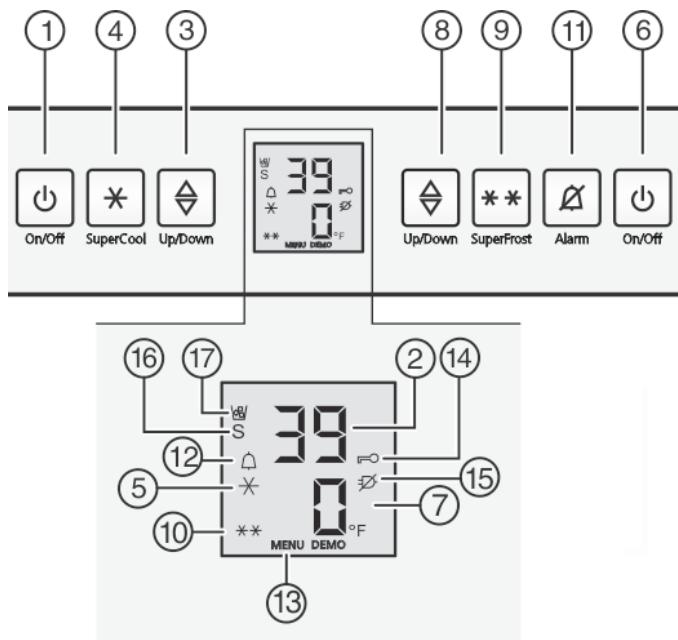

Fig. 3
- Press the Freezer compartment On/Off button Fig. 3 (6).
- Press the Fridge compartment On/Off button Fig. 3 (1)
- Activate setting mode: Press SuperFrost button Fig. 3 (9) for about 5 seconds.
- The Menu symbol Fig. 3 (13) lights up.
- Use the Set freezer compartment button Fig. 3 (8) to select °.
- To confirm: Briefly press SuperFrost button Fig. 3 (9).
- Select °F oder °C with the Freezer compartment set button Fig. 3 (8).
- To exit setting mode: Press Freezer compartment On/Off button Fig. 3 (6).
- To activate setting mode: Press and hold the SuperFrost button Fig. 3 (9) for approx. 5 seconds.
- In the display, the Menu Symbol Fig. 3 (13) is displayed.
- Use the Set freezer compartment button Fig. 3 (8) to select .
- Confirm briefly by pressing the SuperFrost button Fig. 3 (9).
- The Child Safety symbol Fig. 3 (14) lights up on the display.
- Press the freezer compartment On/Off button Fig. 3 (6) briefly.
- Press Alarm button Fig. 3 (11).
At the same time, the Alarm symbol Fig. 3 (12) will flash.